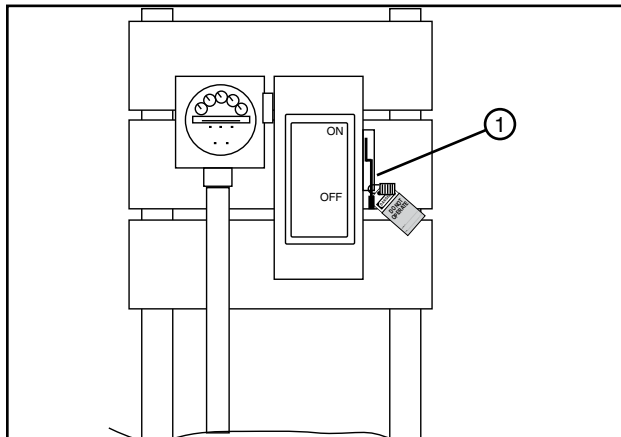

Figure 22-1
1. SHUT OFF and LOCK the public power service disconnect to the irrigation machine. See figure 22-1.
FILL OUT the blue (OSHA safety color code) tag and attach to the disconnect after locking. See figure 22-1.